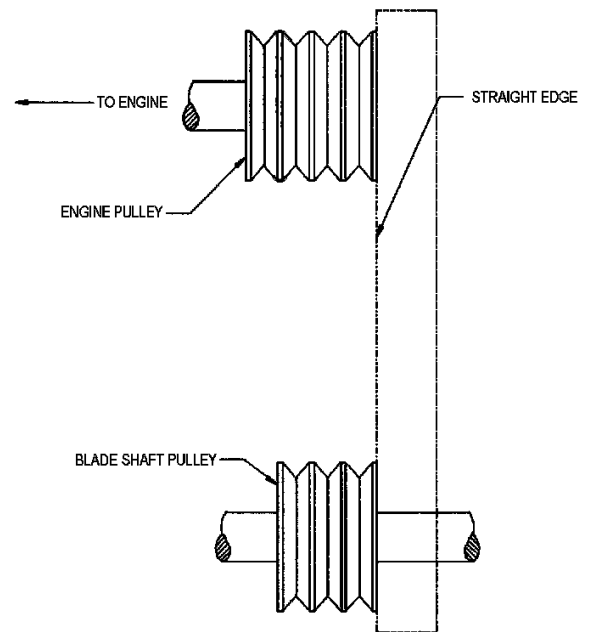

Figure 1
2. Take up tension until the belts are snug in the grooves. Run the drive for about five (5) minutes to "seat" the belts. Then impose the peak load. If the belts slip, tighten them until they no longer slip at peak load. Most new belts will need additional tensioning after seating.
6. To check alignment, use a steel straight edge. See Figure 1.